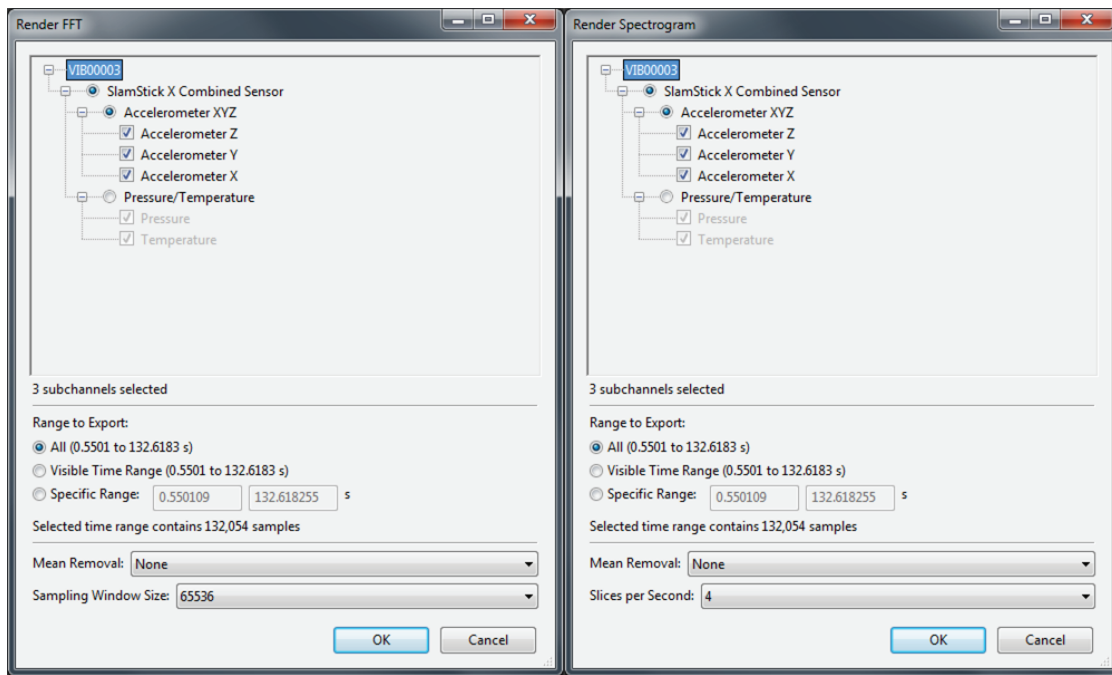

Figure 23: The render FFT and render spectrogram dialog box allows the user to specify a range of data to perform the analysis.
Because a recording can contain tens of millions of individual samples, the user interface (UI) provides a means of selecting a specific interval to calculate an FFT or spectrogram for. Also, the spectrogram UI allows for the selection of the number of slices per second in the spectrogram calculation. The Render FFT dialog and the Render Spectrogram dialog have much of the same functionality as the Export CSV dialog; as shown in Figure 23. Table 10 explains how to perform the FFT or spectrogram analysis.